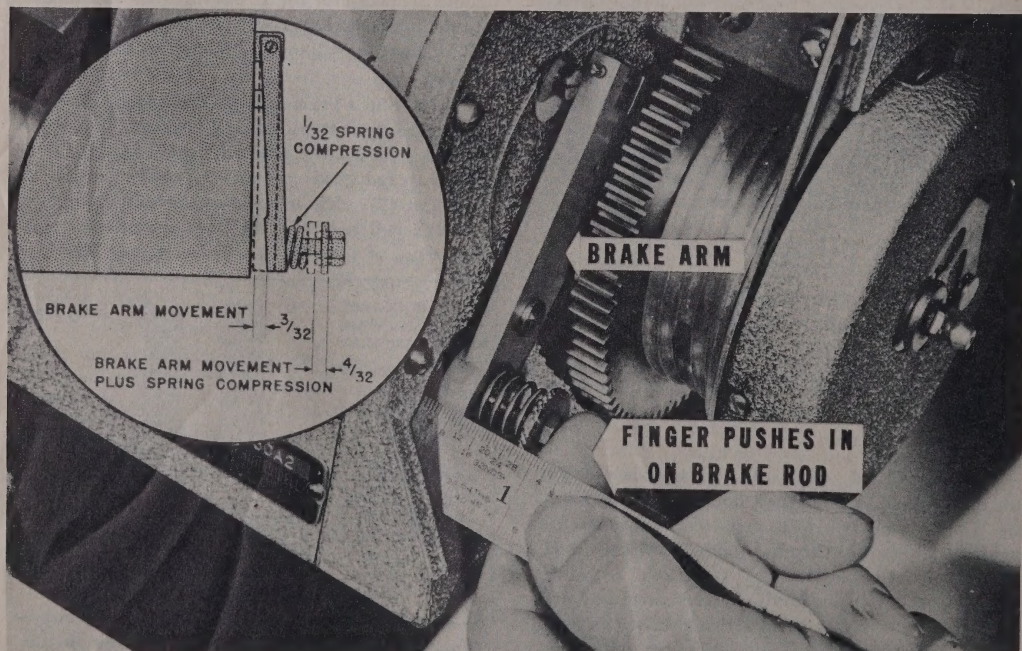

Figure 350 — Adjusting Brake Arm Over-travel
(g) Press lightly on the adjusting nut (11) until a distinct resistance is felt. This indicates that the brake disc has made contact with the brake cork. By applying an additional force, the knurled adjusting nut should move in further until the brake plunger seats itself in the solenoid housing. The magnitude of this additional movement (which is called "the brake arm over-travel") is controlled by the thickness of the thrust bearing (6) in the brake arm (7) and by the length of the plain collar (14) on the brake pull rod. This over-travel is not affected by the amount of compression of the brake spring (12). This over-travel must be between the limits of $1/64$ and $3/64$ inch (approximately $1/32$ inch, see figure 350.)
(h) (See figure 336.)—Measure the brake arm over-travel carefully with a scale as shown in figure 350. If insufficient over-travel is noted, correct it by using a thicker thrust bearing (6), or a thinner plain collar (14). If too much over-travel is indicated, correct by using a thinner thrust bearing (6), or a thicker